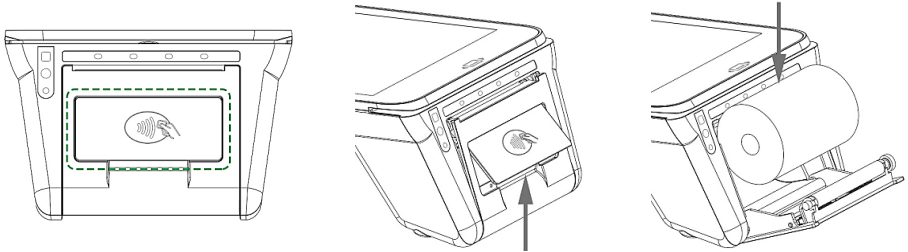

Figure 10
STEP 1: Gently pop the printer cover's latch; then pull the cover upward to open the paper roll cover (**Figure 10**).